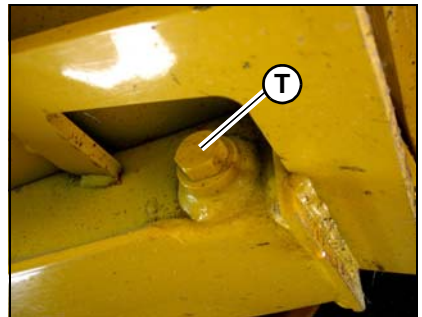

Figure 113 – Chaincase Drain Plugs
2. Remove drain plugs (T, Figure 113) on both chaincases and drain the oil into a suitable container(s).